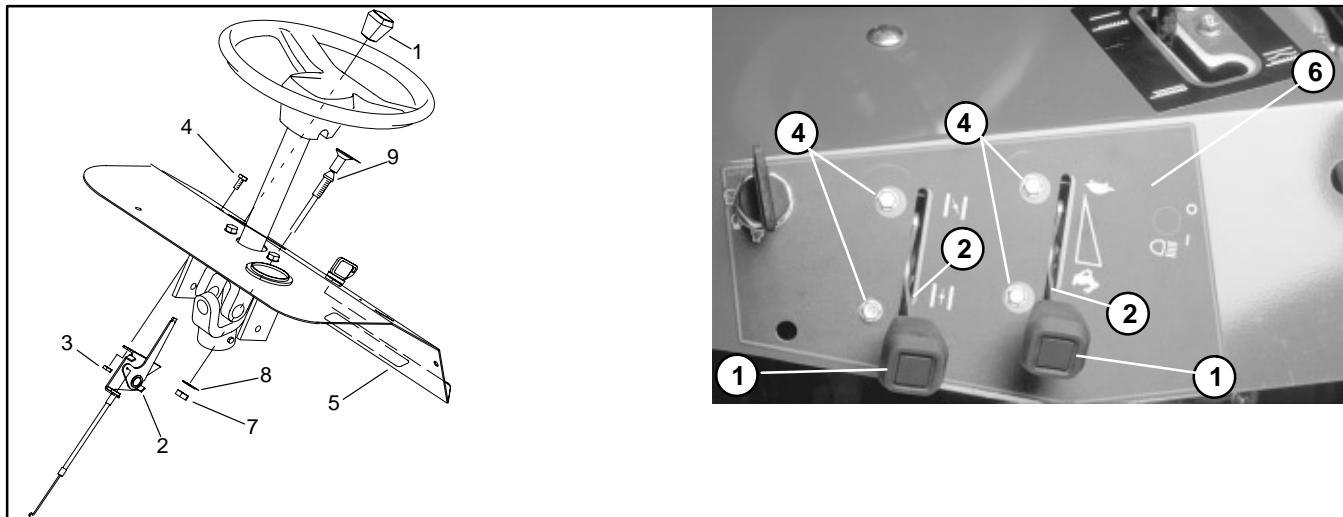

Figure 10
5. Remove throttle knob from the throttle control. Remove both lock nuts and cap screws securing the throttle control to the dash panel or right fender. Remove throttle control from the machine (Fig. 10).
- Secure throttle control to the dash panel or right fender with both cap screws and lock nuts. Install throttle control knob to the throttle control lever (Fig. 10).
- On the **SP 2020/3020** remove hex nut and lock washer securing the choke control to the dash panel. Pull choke control and cable from dash panel (Fig. 10).
- On the **SP 5020**, remove choke knob from the choke control. Remove both lock nuts and cap screws securing the choke control to the right fender. Remove choke control from the machine (Fig. 10).
- On the **SP 2020/3020** insert choke cable and control through the dash panel. Secure choke control to the panel with lock washer and hex nut (Fig. 10).
- On the **SP 5020**, secure choke control to the dash panel or right fender with both cap screws and lock nuts. Install knob to the choke control lever (Fig. 10).